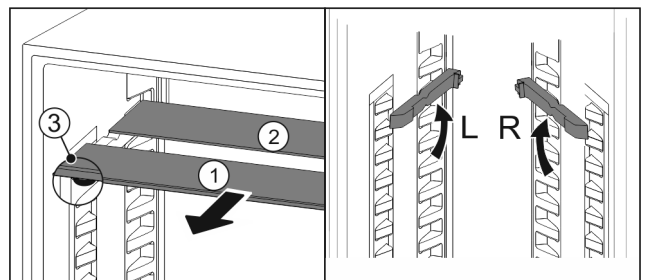

Fig. 133
- ▶ Pull the glass panels out Fig. 133 (1) from the front, one at a time.
- ▶ The glass panel Fig. 133 (1) and trim strip are at the front.
- ▶ The stops Fig. 133 (3) point down.